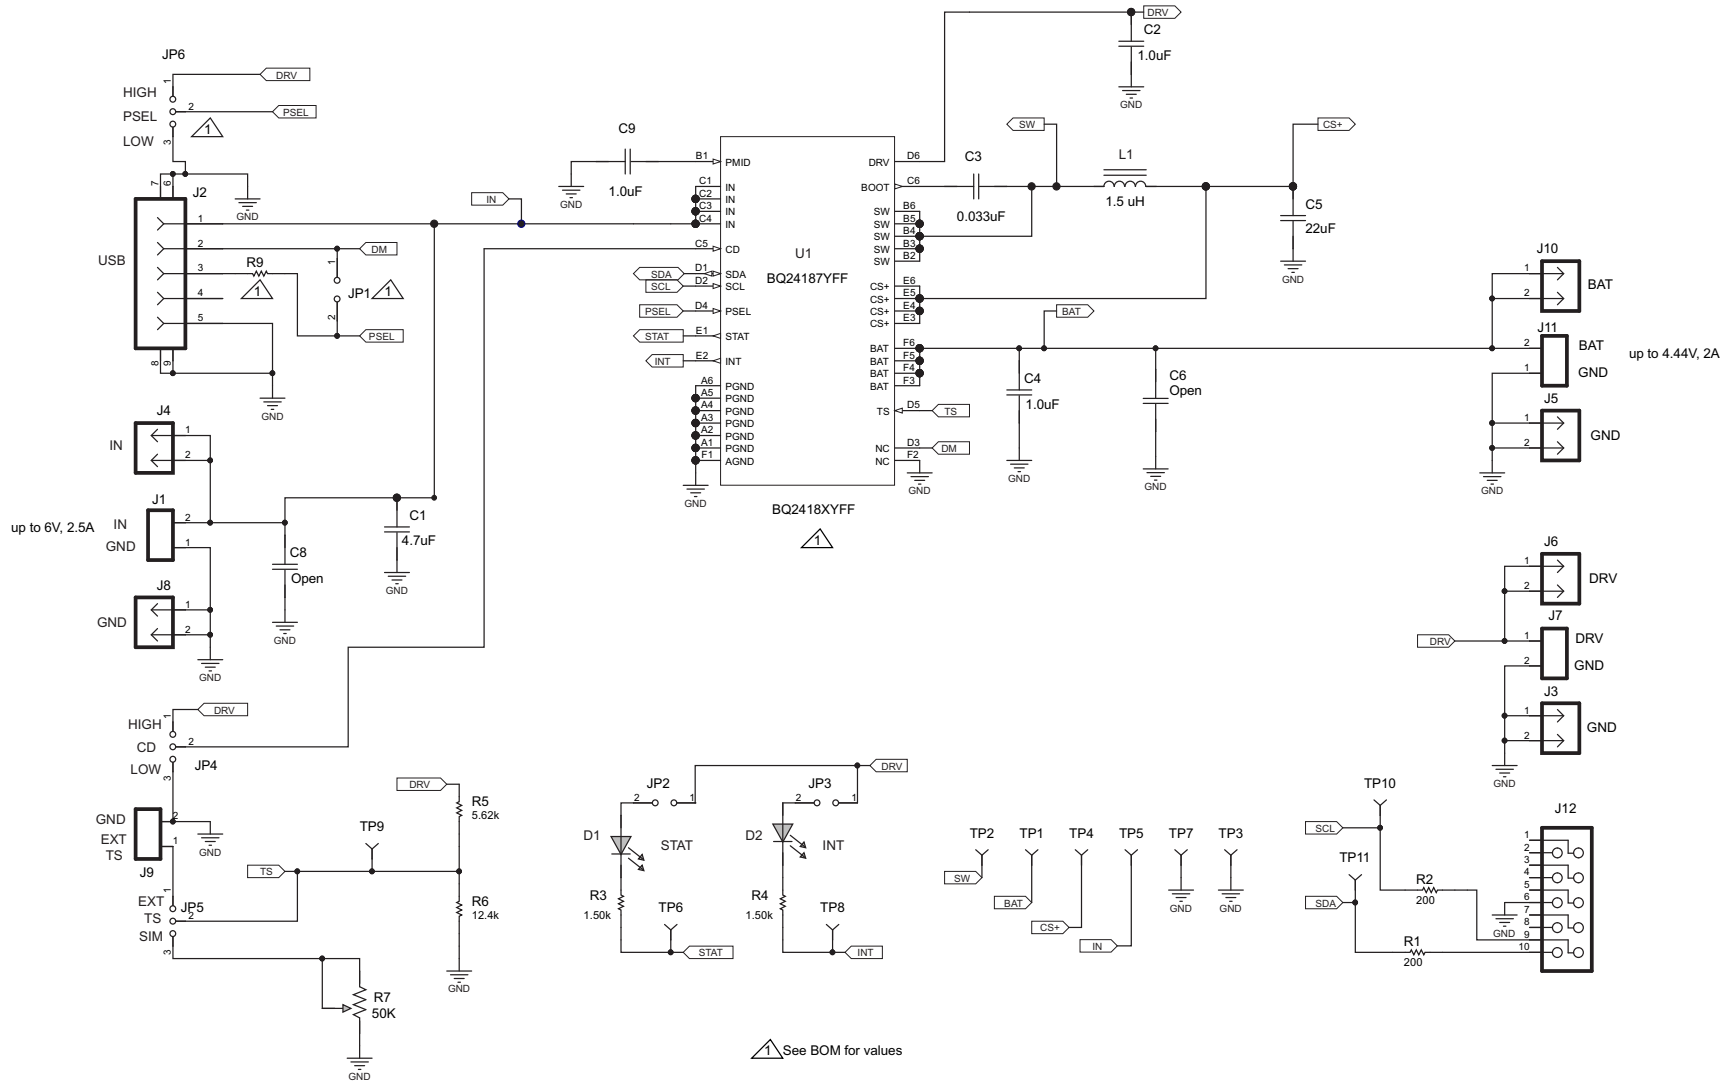

Figure 1. bq2418xEVM Schematic
Figure 1 illustrates the bq2418x EVM schematic.
3. Connect the output of PS #1 in series with a current meter (CM #1) to J1 (IN).
5. If BAT_Load as shown in Figure 1 is used, connect PS #2, set to approximately 3.7 V, to the input side (PS #2+/-) of BAT_Load, then turn off PS #2.